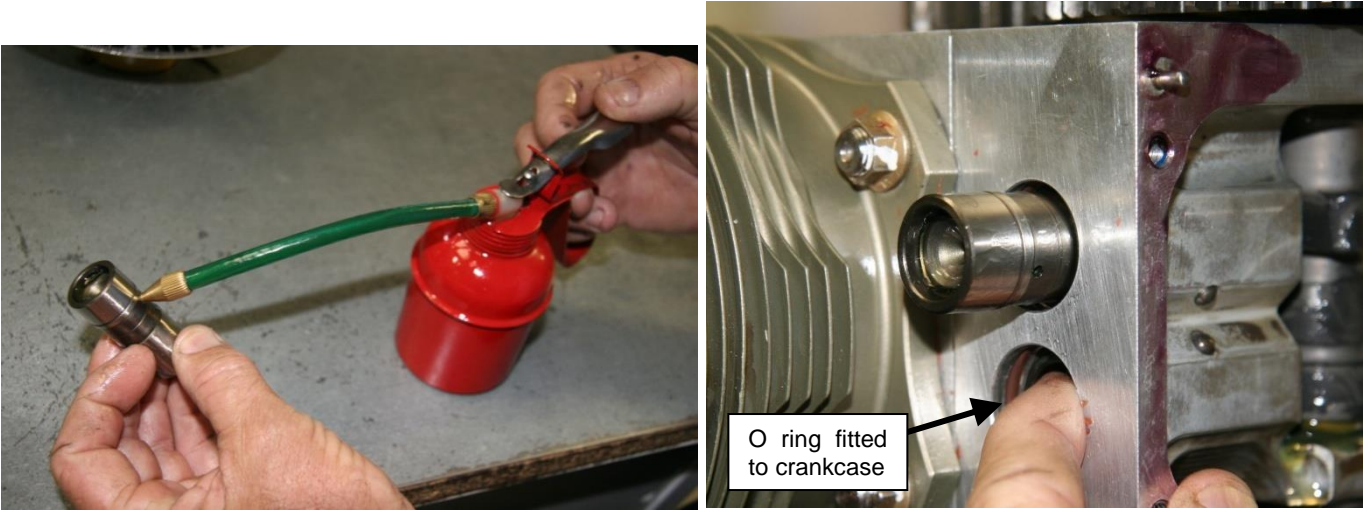

Figure 188 – Fitting Hydraulic Lifter To Crankcase
2. For hydraulic lifter engines, fill the lifters with oil (using an oil can - Figure 188) and fit the lifters to the crankcase. The outside of the lifter must also be well lubricated with oil before fitting and note also the light covering of grease which has been applied to the camshaft lobes – this is to minimise wear during initial start-up. Note that solid lifter engines have their lifters fitted before crankcase assembly – there is no way to do it once the case halves are assembled.
4. Fit new O rings to the crankcase to seal the pushrod tubes (solid lifter models) – see Figure 188.